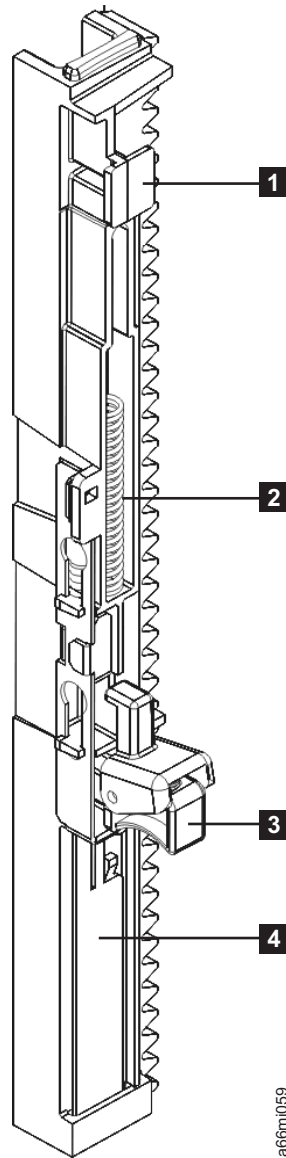

Figure 8-106. Gear rack (detail)
Note: Don't lose the spring (**2** in Figure 8-106 on page 8-98) that is recessed in the gear rack slot.
2. Using your thumb, push the metal slide (**4** in Figure 8-106 on page 8-98) toward the gear rack locking mechanism (**3** in Figure 8-106 on page 8-98) and hold it in place while inserting the black tab (**1** in Figure 8-106 on page 8-98) and locking mechanism into the keyhole slots in the library chassis.
4. Bend the small metal tab (**1** in Figure 8-106) in slightly to prevent the gear rack from moving down too far.
4. Bend the small metal tab (**1** in Figure 8-106 on page 8-98) in slightly to prevent the gear rack from moving down too far.